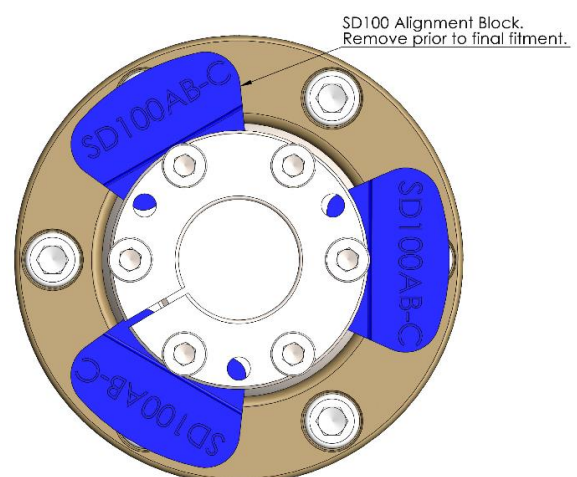
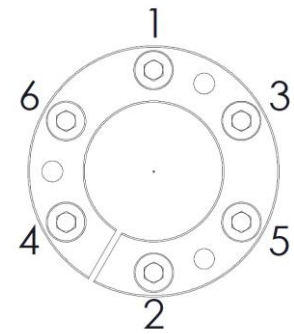

Fig 1. Alignment block
Fig 3. Tightening Sequence
- Insert the clamping unit into the central sphere and loosely tighten the M8 taper locking bolts (9) using an allen key in a crossed sequence (see fig 3). If alignment blocks are not being used (see fig 1), then go to step 8.
- Use the alignment blocks to hold the clamp unit parallel. Insert the blocks evenly spaced under the clamp unit as per fig 1, and gently tighten the taper locking bolts (9), to sufficiently hold the alignment blocks in place. Do not torque the taper locking bolts (9) until alignment is complete and the alignment blocks have been removed. Proceed with normal alignment and fixing methods with propeller shaft and gearbox, taking care not to exceed the maximum working angle when centering Sigmadrive to gearbox output flange. Please go to step 9.
- Place the SigmaDrive onto the gearbox flange. Fit the Locking washers (12) and the M10 Nyloc nuts (13) to the M10 high tensile studs (11) and tighten firmly to a torque of **61Nm**.
- Tighten the M8 taper locking bolts (9) in the sequence indicated in fig 3 at least 3 times by hand using an allen key.
- Tighten the M8 taper locking bolts (9) in the sequence indicated in fig 3 with a torque wrench to 25Nm, then 30Nm and finally 38Nm. Only tighten to required torque once. Do not exceed 38Nm of torque, this could make it difficult to remove if it is overtightened.